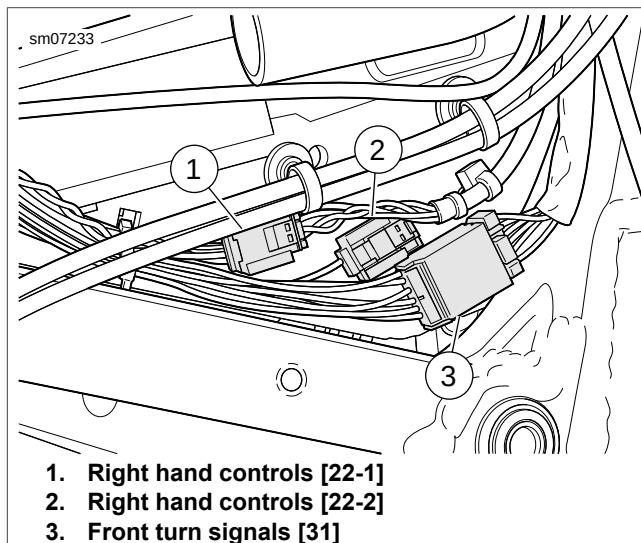

Figure 7-108. Under Fuel Tank Right Side
3. See Figure 7-108. Disconnect right hand control connectors (1, 2).
13. See Figure 7-108. Connect right hand control connectors (1, 2).